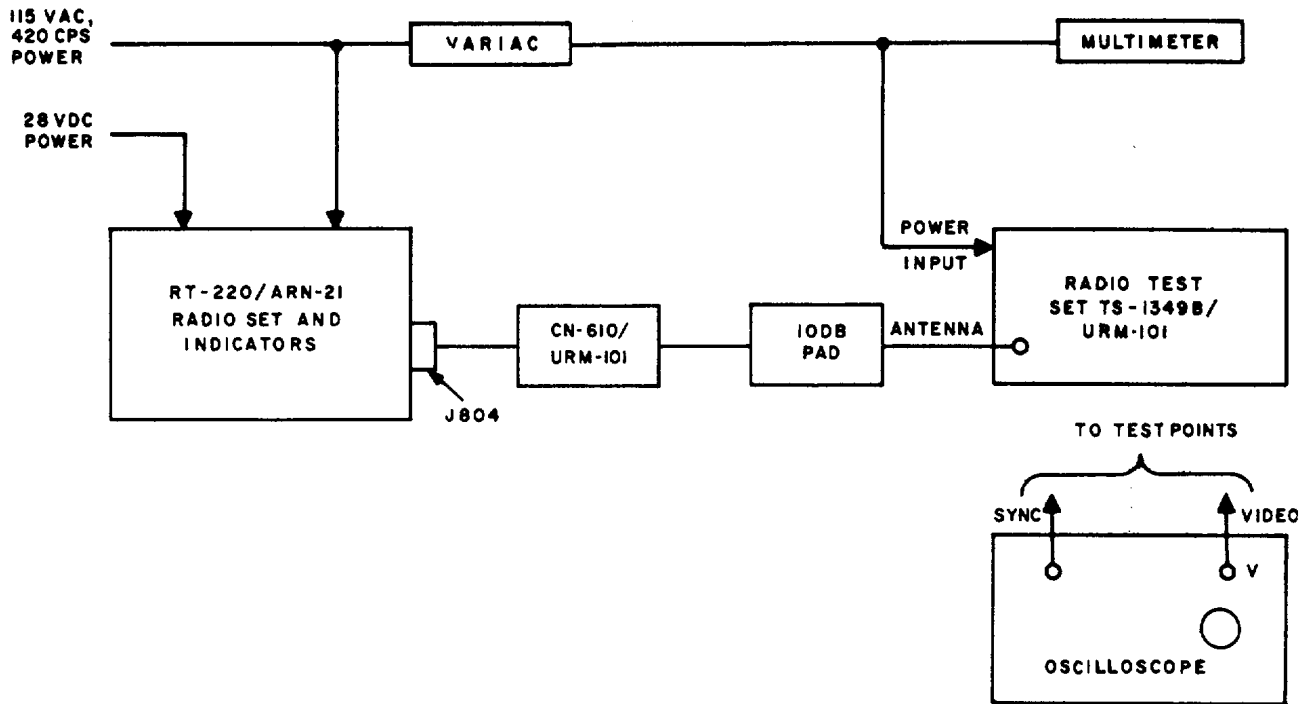

Figure 7-5. Range Reply Test Connections
Adjust range reply with equipment connected as shown in figure 7-5 by the following steps:
- a.** Connect the equipment as shown, figure 7-5.